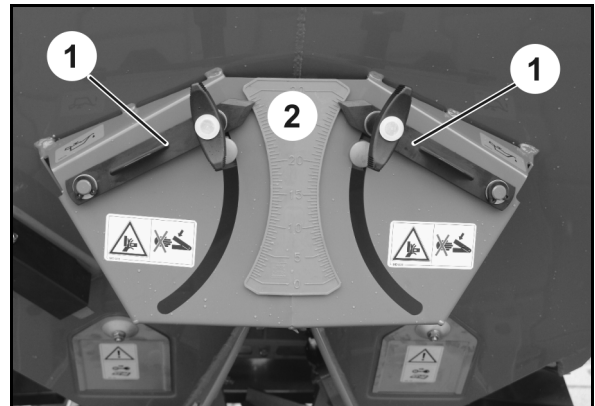

Fig. 31
Spread rate setting is carried out manually via the setting levers (Fig. 31/1, Fig. 32/1) by setting the outlet openings to different widths.
**Take the respective slider position required from the setting chart. The slider position is read from the scale (Fig. 31/2 Fig. 32/2).**